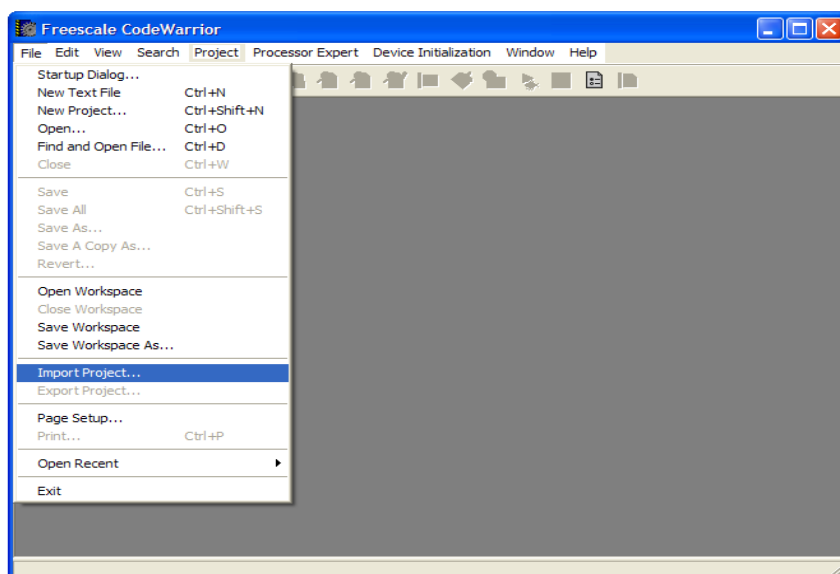

Figure 3-14. CodeWarrior Import Project...
2. Select File -> Import Project... as shown in Figure 3-14.